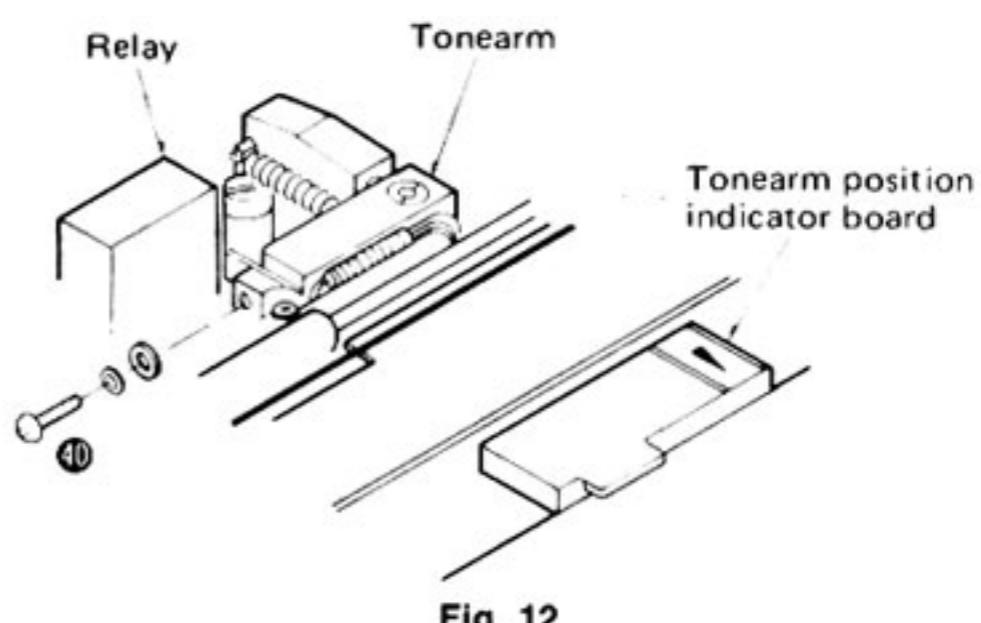

Fig. 12
4. Remove the tonearm setscrew (Fig. 12: ④0).